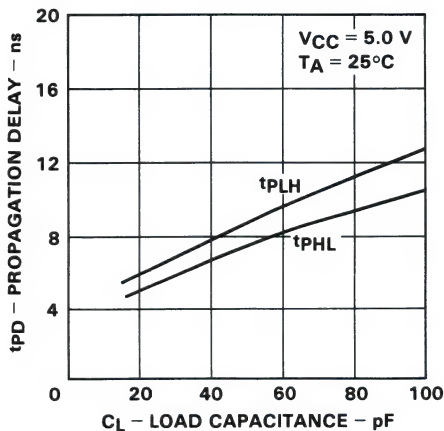
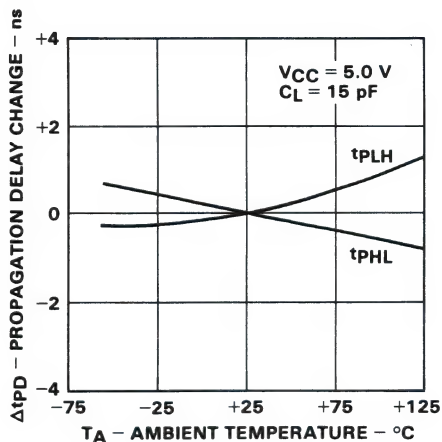

Fig. 2-8
Fig. 2-10
**AC SWITCHING CHARACTERISTICS.** The average propagation delay of a Low Power Schottky gate is 5 ns at a load of 15 pF as shown in *Figure 2-8*. The delay times increase at an average of 0.08 ns/pF for larger values of capacitance load. These delay times are relatively insensitive to variations in power supply and temperature. The average propagation delay time changes less than 1.0 ns over temperature and less than 0.5 ns with  $V_{CC}$  for the military temperature and voltage ranges. (See *Figures 2-10* and 2-11).